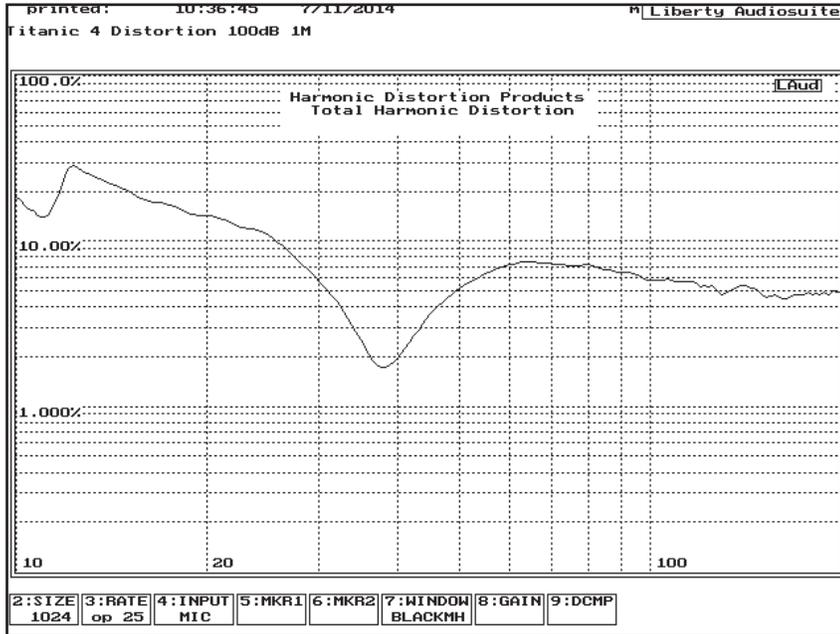

Figure 6: The Dayton Audio Titanic MK4 12" driver's THD is measured at 100 dB at 1 m.
**Figure 6** shows the Titanic's distortion figures, which were really quite low for a 12" driver at this high level at lower frequencies. In fact, the distortion only rose to around 30% at 13 Hz and dropped below 2% around 38 Hz, besting the Ultimax by quite a bit. However, it rose to around 7% at 65 Hz, which was not as good as the Ultimax.